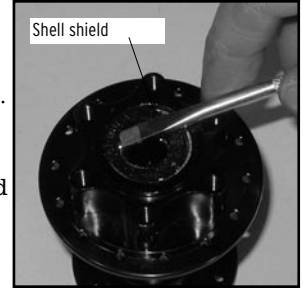

Fig. 5A
5. Gently insert a thin screwdriver blade under the shell shield (Fig. 5A) and lift to remove the shield from the hub. Pry off the shell shields from both sides of the hub.